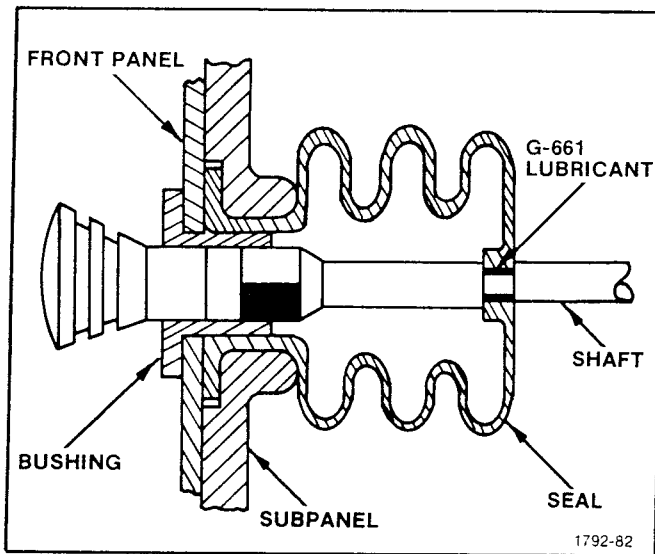

Fig. 5-29. POWER Switch
- c. Install switch per Figure 5-29.